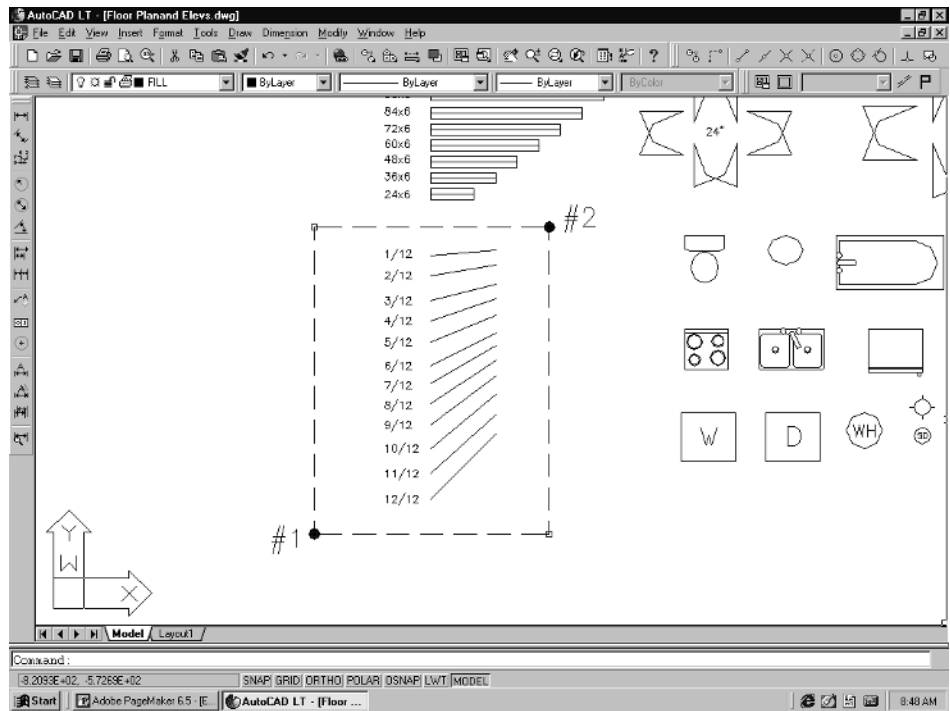

Figure 3-37
1. First, **Zoom|Extents** so that you can see the floor plan, the partial section, and our symbols. Then, **Zoom|In** to the symbols. Pick **Copy** from the Modify pull-down menu. When prompted to *Select objects*, window around all of the roof lines, as shown in Figure 3-37, then **Enter**.